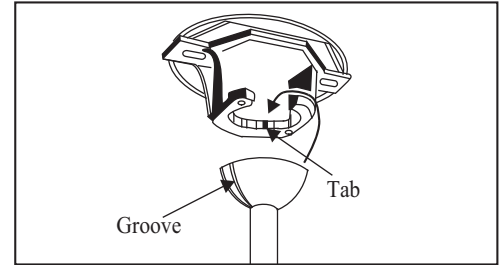

Figure 7
4. Carefully lift the fan assembly up to the ceiling mounting bracket and seat the hanger ball in the mounting bracket socket. Make sure the tab on the mounting bracket socket is properly seated in the groove in the hanger ball. (Figure 7) This will help to balance the ceiling fan.
THE TAB IN THE RING MUST REST IN THE GROOVE OF THE HANGER BALL AS FIGURE 7. FAILURE TO PROPERLY SEAT THE TAB IN THE GROOVE COULD CAUSE DAMAGE TO WIRING.